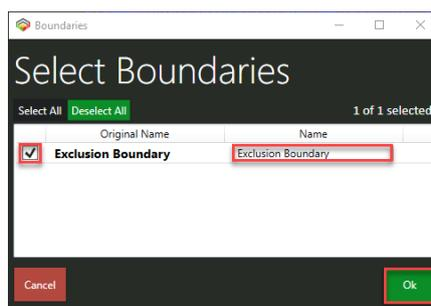

Figure 62. Import exclusion boundary selection dialog.
4. Selecting a boundary file will open the *Boundaries Selection* dialog (Figure 62).